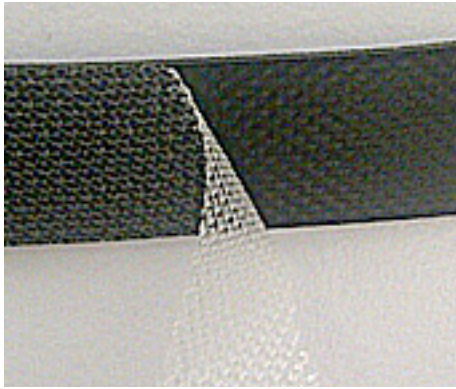

Figure 2-62: Exposing the tacky side of the sealing tape
2. Cut two pieces each 25 cm long, of Scotch 23 splicing tape. Remove the plastic cover to expose the tacky side of the sealing tape as shown in Figure 2-62.